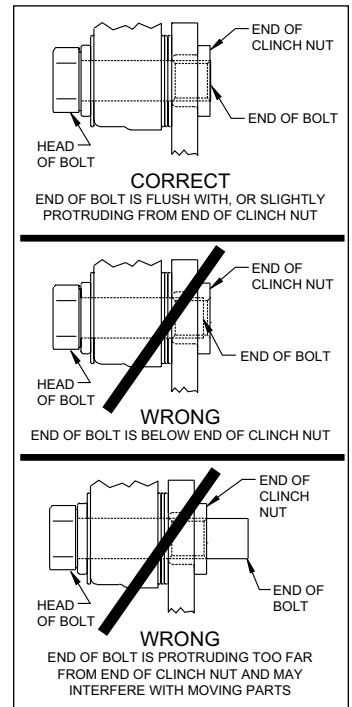

Figure 4. Clinch Nut Engagement Diagram
CAUTION: All mounting bolts must fully engage clinch nuts. Be sure to check that all bolts are either flush or protruding through flanged side of clinch nut after shimming, Figure 4.
- Adjust by adding or subtracting shims (2) between the bracket and the spindle. Always use the same amount of shims on each of the two mounting bolts.
- NOTE:** The end of each bolt must be flush with or slightly protruding from the head of the clinch nut, as shown in Figure 4. If necessary place spare shims (2) between washer (19) and caliper mounting ear to achieve the proper clinch nut engagement. Once